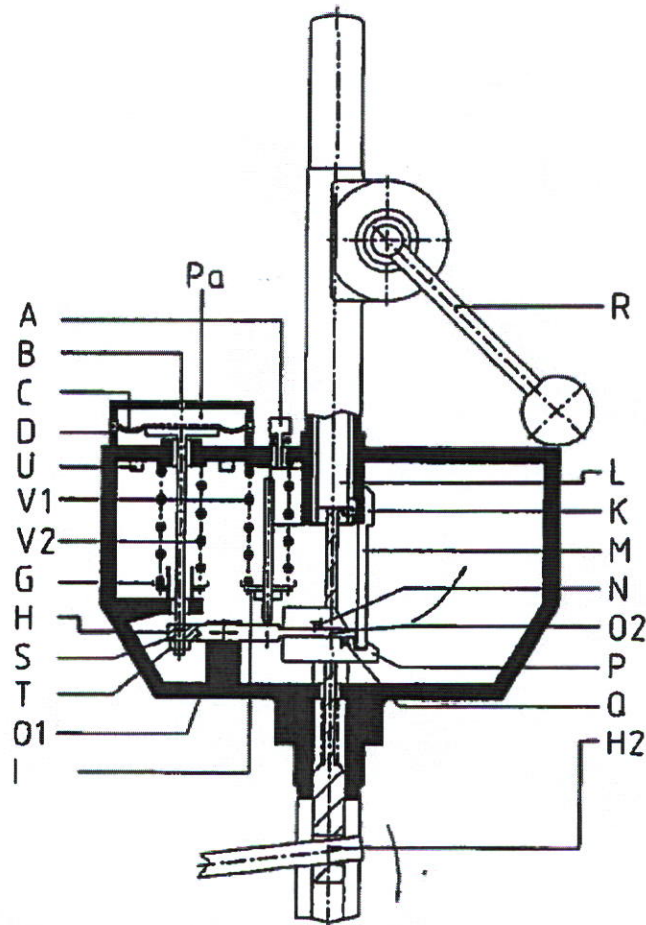

Figure 2: Working principle of the switch and reset mechanism SVC086
2.3 Releasing and opening HSV / HSVS (see figures 2 and 3)